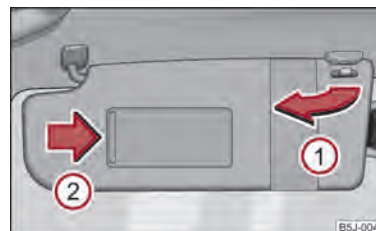

Fig. 31 Sun visor: swivelling out
You can pull the sun visor for the driver or front passenger out of the fixture and swivel it toward the door in the direction of the arrow ① ⇒ fig. 31.